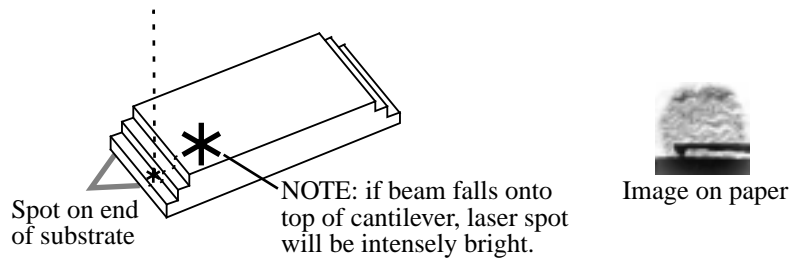

Figure 5.13. Locate the laser spot on the edge of the cantilever.
2. Position the laser beam in X (figure 5.13).